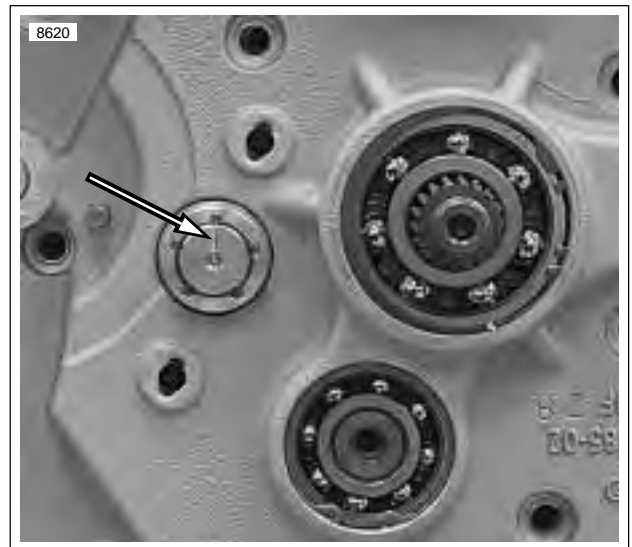

Figure 6-50. Scribed Line on Shifter Drum at 12 o'clock (Transmission in Neutral)
14. See Figure 6-50. Scribe a line on the end of the shifter drum at the 12 o'clock position for later reference.